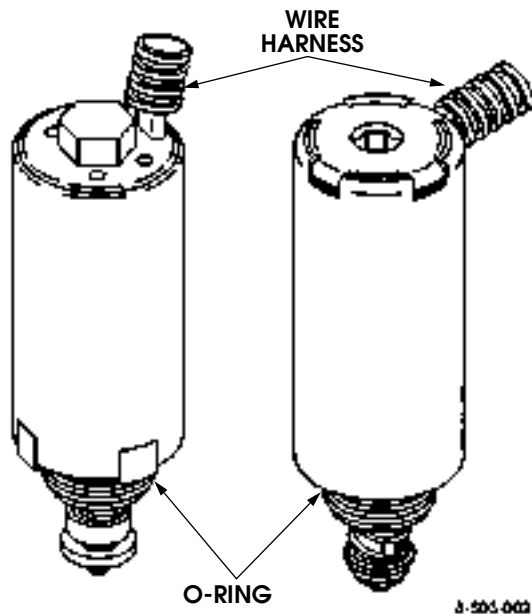

Figure 3-14: Two Styles Of Solenoids
3. Install the O-ring seal above the threads at the bottom of the new solenoid (Figure 3-14).